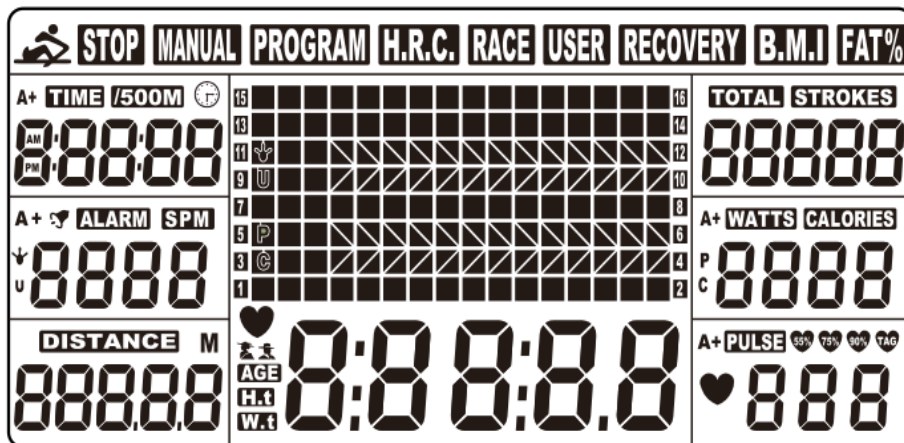
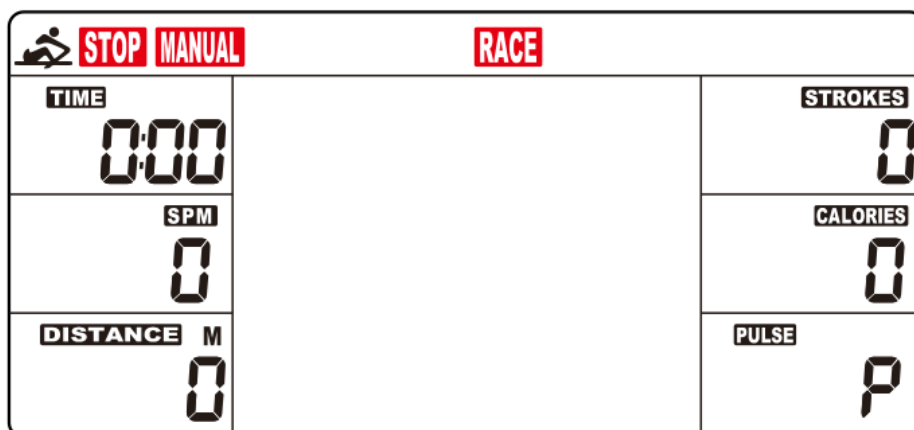

Fig. 1
Fig. 2
1. Install 2 PCS AA batteries (included) and meter will beep for 2 seconds (Fig. 1). Then, the meter enters into the picture of the SPORT.(Fig. 2).